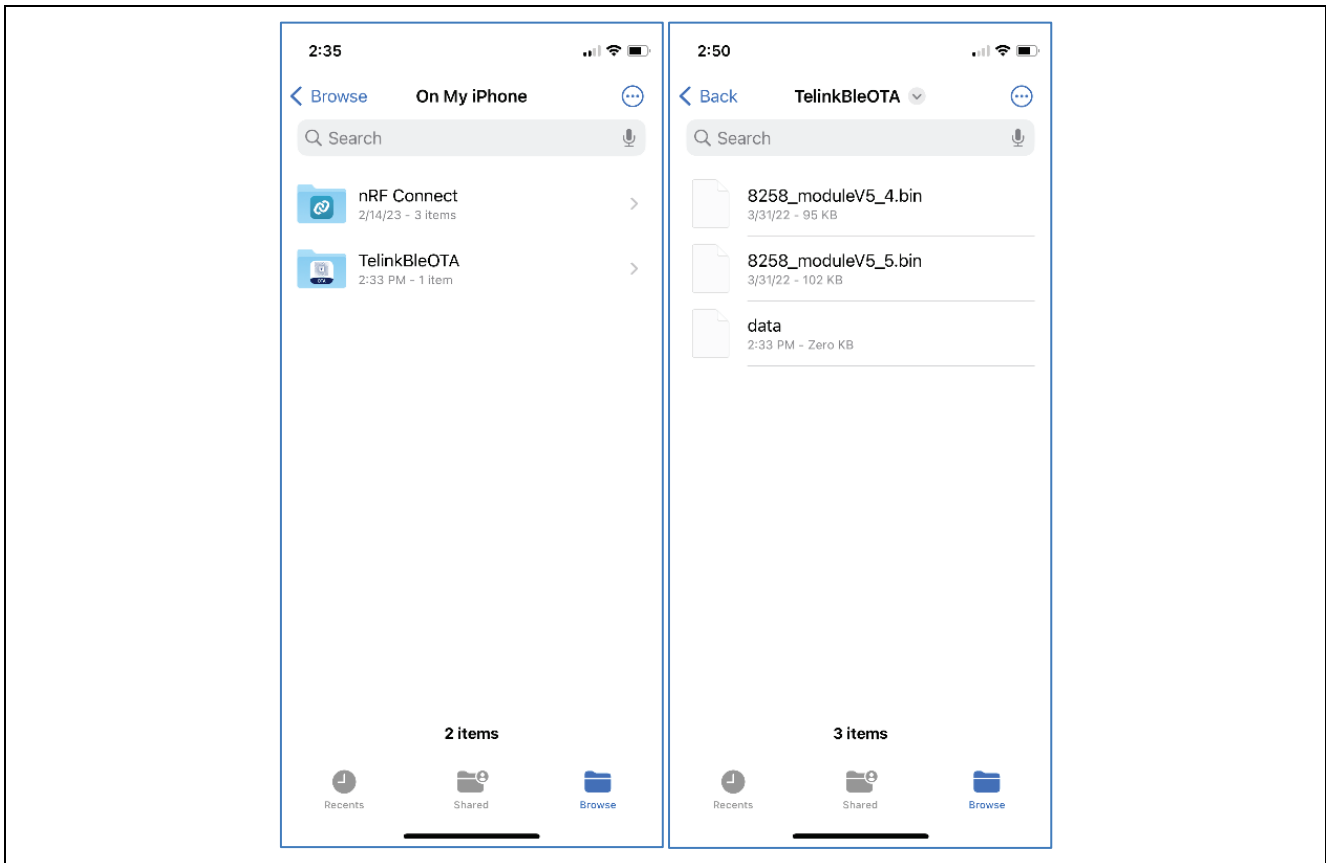

Figure 3. Store the RYZ012 Firmware Files
- Transfer the RYZ012 firmware files by email or other method that can be accessed by the mobile device and store to app folder Locations->On My iPhone->TelinkBLEOTA. The folder is created by the app during installation for newer versions (v16.3.1 or later) of iOS. If the folder is not created, then manually create the folder TelinkBLEOTA on the mobile device. See Figure 3.